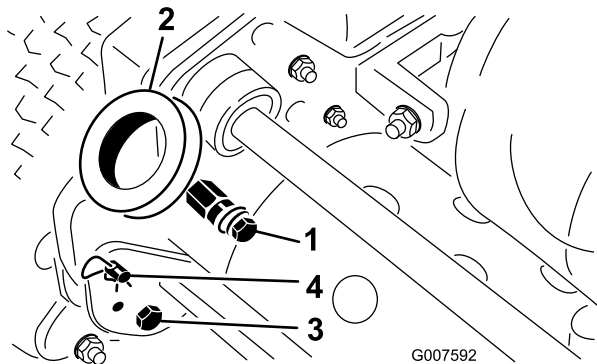

Figure 2
1. Remove the bolts, locknuts, and washers securing the bottom of the handle arms to each side of the machine (Figure 2).
2. Remove the hairpin cottes and the ring pins securing the handle arms to the rear of the frame (Figure 2).
3. Insert the handle ends through the holes in the handle arms and align the holes with the mounting pins (Figure 2).
1. Remove the hairpin cotters from the ring pins on each side of the machine (Figure 2).
2. While supporting the handle, remove the ring pins from each side and raise or lower the handle to the desired operating position (Figure 2).